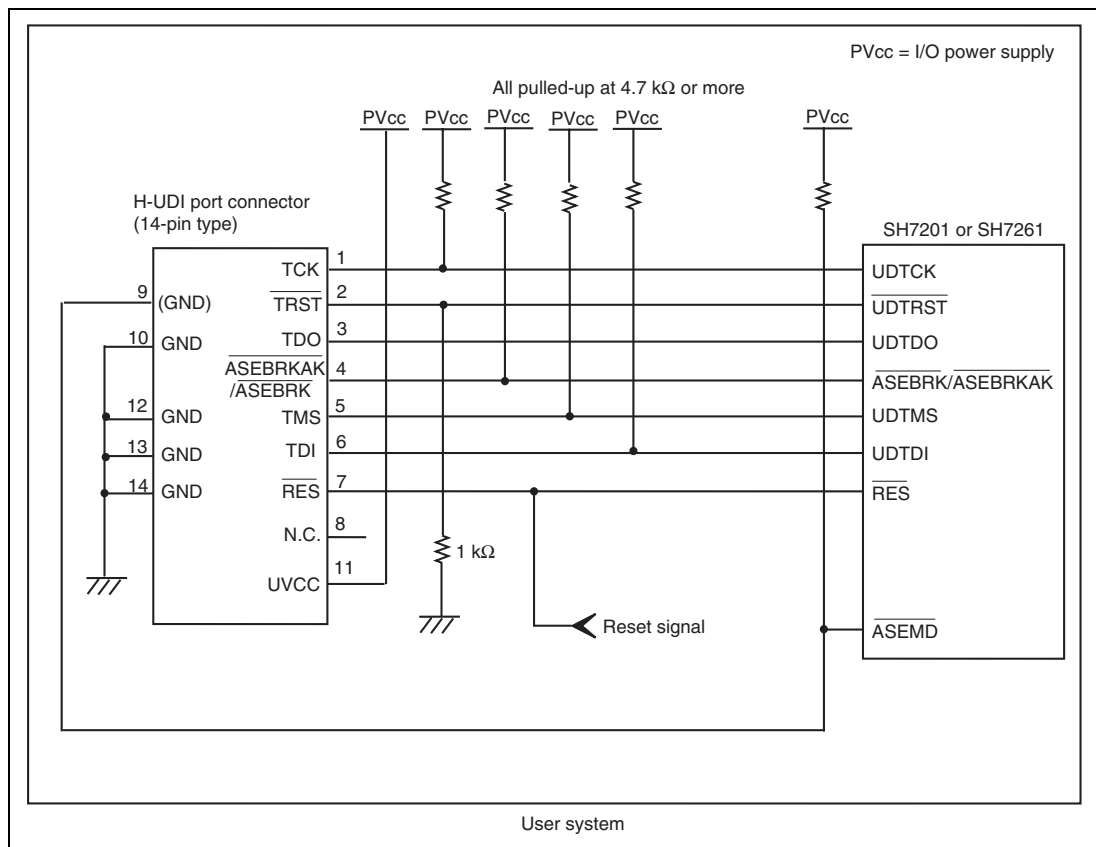

Figure 1.6 Recommended Circuit for Connection between the H-UDI Port Connector and MCU when the Emulator is in Use (14-Pin Type)
Figure 1.6 shows a recommended circuit for connection between the H-UDI port connector (14 pins) and the MCU when the emulator is in use.
- (1) When the emulator is used: `_ASEMD` = 0
- (2) When the emulator is not used: `_ASEMD` = 1Figure 1.6 shows an example of circuits that allow the `_ASEMD` pin to be GND (0) whenever the emulator is connected by using the user system interface cable. When the `_ASEMD` pin is changed by switches, etc., ground pin 9. Do not connect this pin to the `_ASEMD` pin.
6. The resistance value shown in figure 1.6 is for reference.
When the circuit is connected as shown in figure 1.6, the switches of the emulator are set as SW2 = 1 and SW3 = 1. For details, refer to section 3.8, Setting the DIP Switches, in the SuperH™ Family E10A-USB Emulator User's Manual.